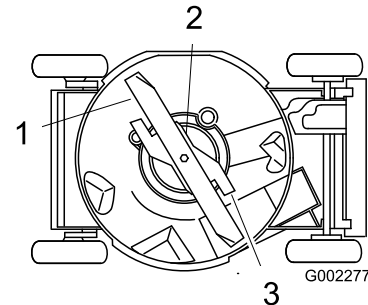

Figure 26
4. Tip the mower onto its **left** side (air cleaner up)(Figure 26).